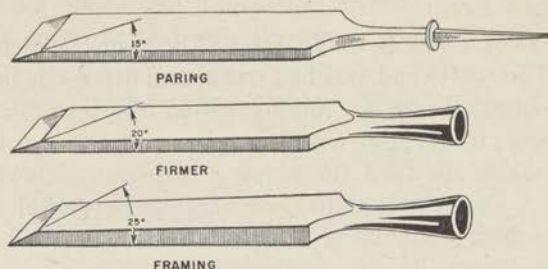

FIGURE 32.—Chisels classified by purpose.
g. Chisels.—(1) A chisel is a flat piece of hardened and tempered tool steel with an acutely beveled cutting edge at one end and a wooden handle at the other. Usually from $\frac{1}{8}$ to 2 inches wide, chisels are classified by blade length as butt, pocket, and mill, about as follows: butt, $2\frac{1}{2}$ to $3\frac{1}{4}$ inches; pocket, 4 to 5 inches; mill, 8 to 10 inches. Chisels more than 2 inches wide are known as "slicks."
(2) Chisels are divided into three classes, according to duty: paring, firmer, and framing chisels (fig. 32). Paring chisels are the lightest, have a wooden handle usually held on a tang (figs. 32 and 33), are used only for taking light cuts, and are always driven by hand pressure. Firmer chisels, which have tang or socket handles,